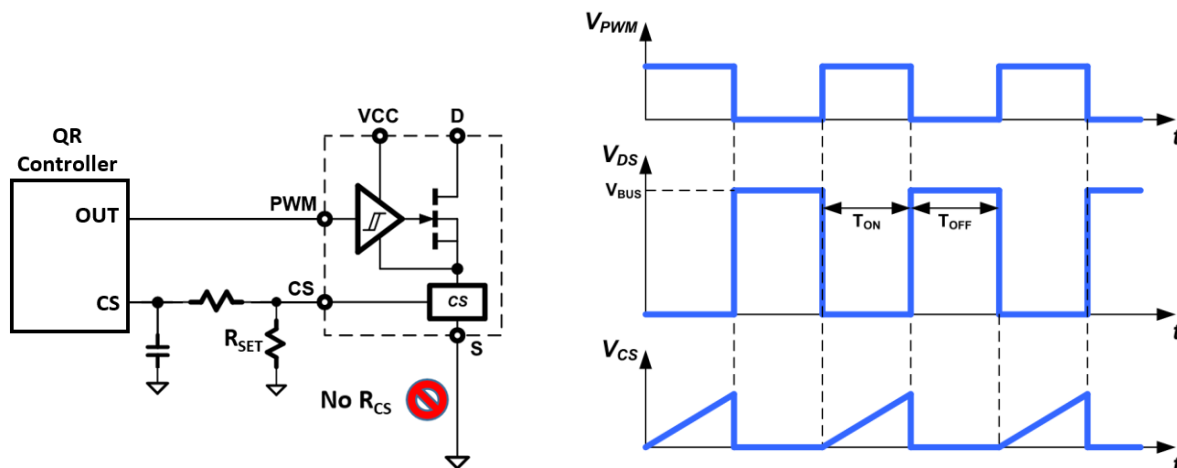

Fig. 25. Current sensing circuit and timing diagram
For many applications it is necessary to sense the cycle-by-cycle current flowing through the power FET. Existing current sensing solutions include placing a current sensing resistor in between the source of the power FET and P_{GND}. This resistor method increases system conduction power losses, creates a hotspot on the PCB, and lowers overall system efficiency. To eliminate this external resistor and hotspot, and increase system efficiency, this IC includes GaNSense™ Technology for integrated and accurate loss-less current sensing. The current flowing through the internal GaN power FET is sensed internally and then converted to a current at the current sensing output pin (CS). An external resistor (R_{SET}) is connected from the CS pin to the S_{GND} pin and is used to set the amplitude of the CS pin voltage signal (Fig. 25). This allows for the CS pin signal to be programmed to work with different controllers with different current sensing input thresholds.